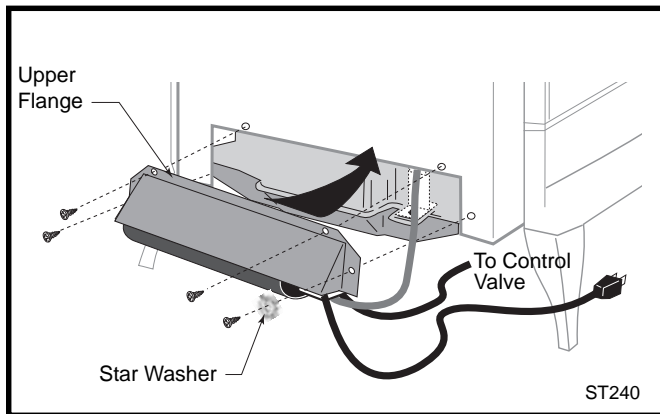

Fig. 8 Place upper flange behind lower edge of shroud.
1. Attach the fan to the rear shroud by engaging the upper flange of the fan skirt under the lower edge of the shroud and secure the skirt with the four screws and one star washer provided. (Fig. 8, 9)